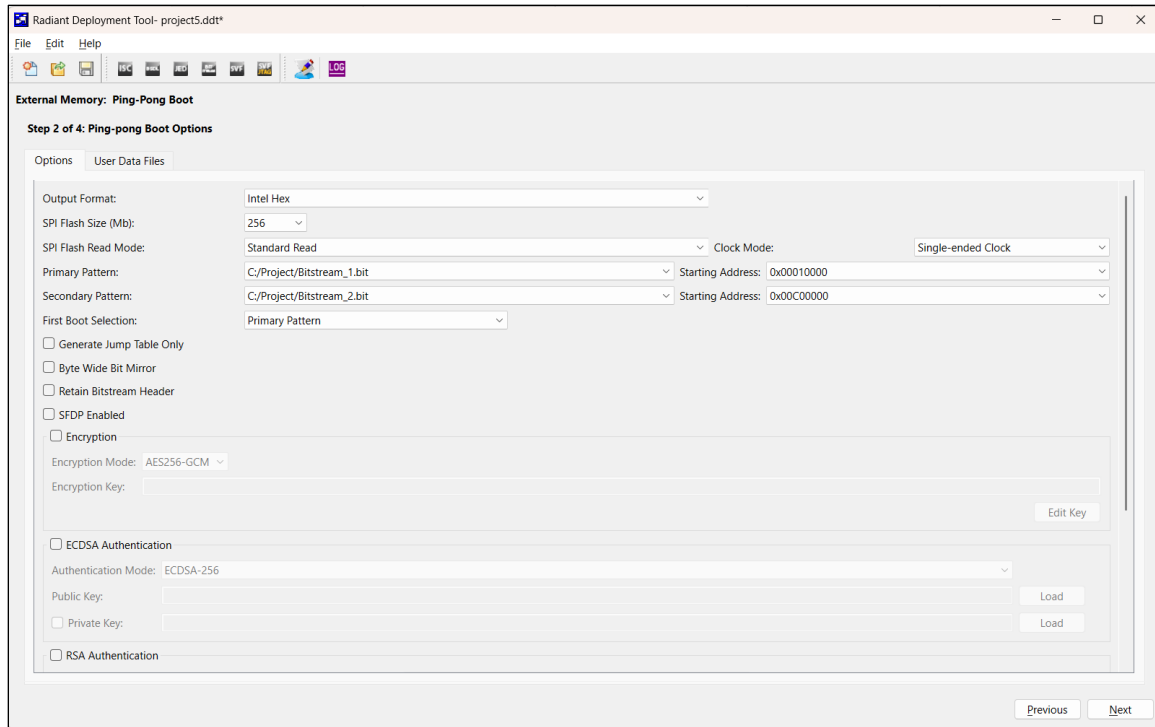

Figure 7.9. Ping-Pong Boot Options Window
Step 2 of 4: Ping-pong Boot Options window (Figure 7.9)